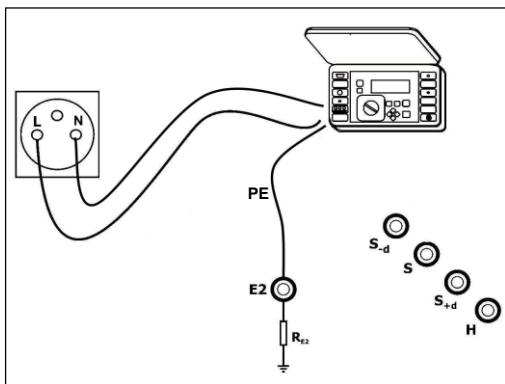

Fig. 14. Connection of the meter
- connect meter of the short circuit loop impedance in accordance with Figure 14,